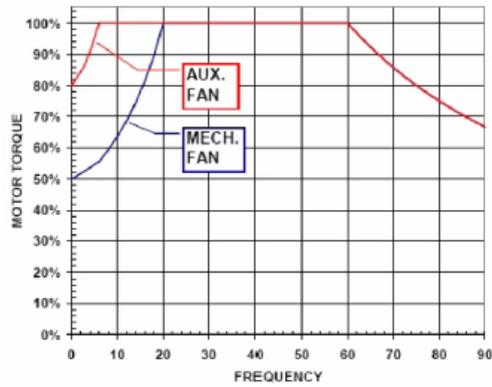

Figure 2. Motor Torque vs. Frequency Relationship
1. All motors are constant horsepower and variable torque above base speed. A motor can only generate nameplate horsepower up to base speed because the voltage is fixed by the power source. As motor speed increases above nameplate frequency it becomes constant horsepower and variable (decreasing) torque. Since the horsepower is fixed, the torque of the motor will decrease as the speed of the motor is increased. Please refer to Figure 2 below. Maximum motor speed is limited by rotor balance, bearing life, overheating and other physical limitations of the motor.